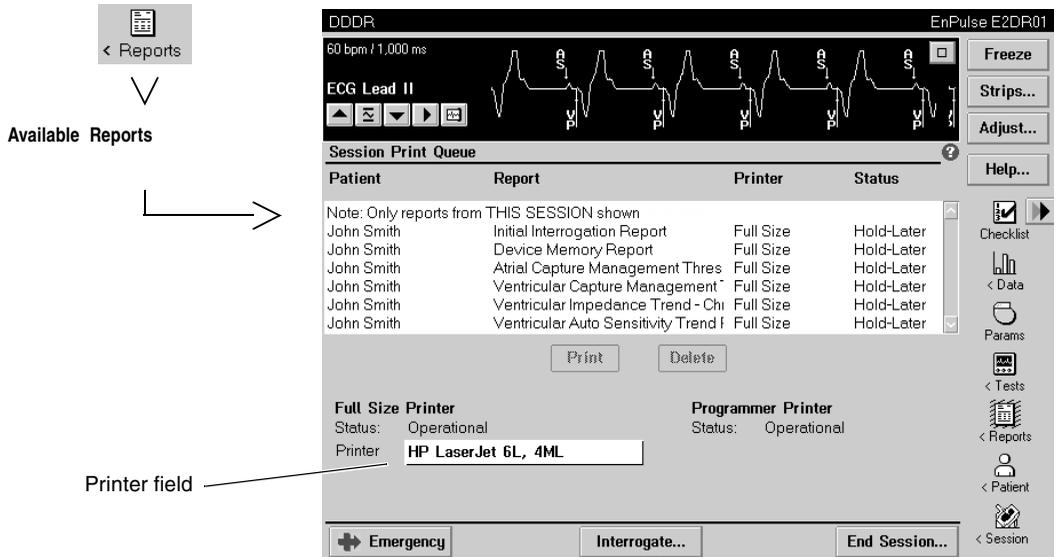

Figure 1-13. Session Print Queue screen
- Print Queue screen (see Figure 1-13)